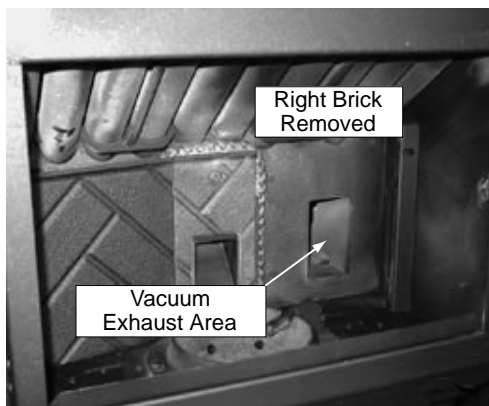
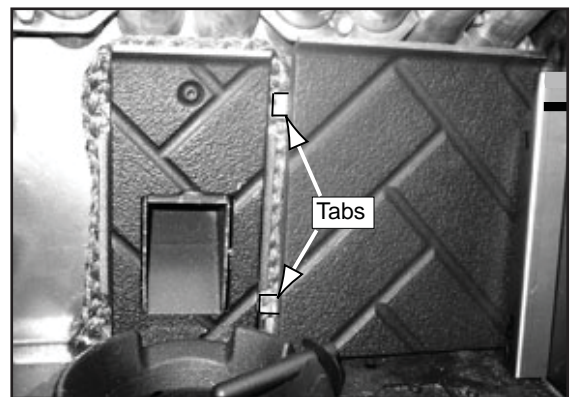

Figure 37.3
Figure 37.4
1. Place right brick in behind the right bracket, and then slide to the left so the tabs are behind the center brick. **Figure 37.4.**
5. Insert baffle into top front inside the firebox and pull forward. Then raise up the bottom end and insert baffle tab into slot on the top of the right bracket to lock into place. **Figure 37.3.** Place the left side hook at the bottom of the baffle over the top edge of brick for stability. **Figure 37.4.**